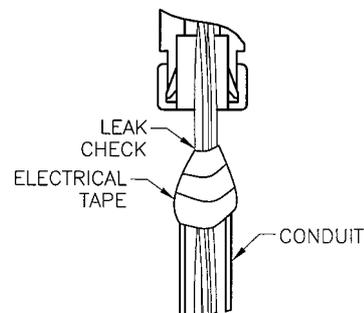

Figure 9
3. Carefully raise Electrical Fitting Kit to expose the motor leads and the top of the conduit. Take care not to damage motor leads on the Differential Pressure Switch pressure lines. Seal off motor leads to conduit with adhesive tape. Refer to figure 9.